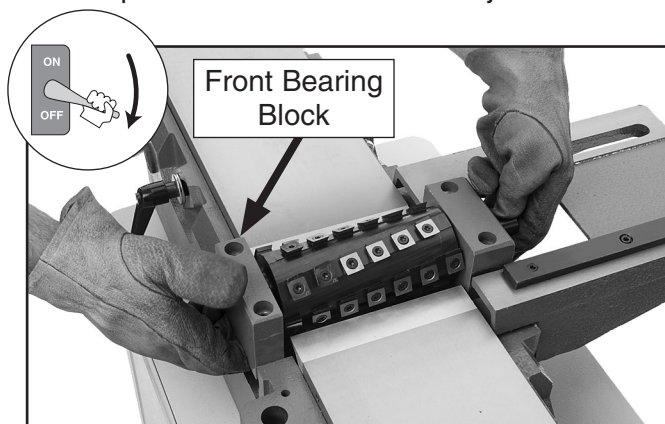

Figure 9. Installing spiral cutterhead.
18. While keeping the bearing blocks pressed against the spiral cutterhead, move the cutterhead to the jointer. Using the mark from **Step 9**, install the cutterhead so the front bearing block is positioned at the front of the machine (see **Figure 9**). Be careful not to chip the carbide inserts on the jointer beds.